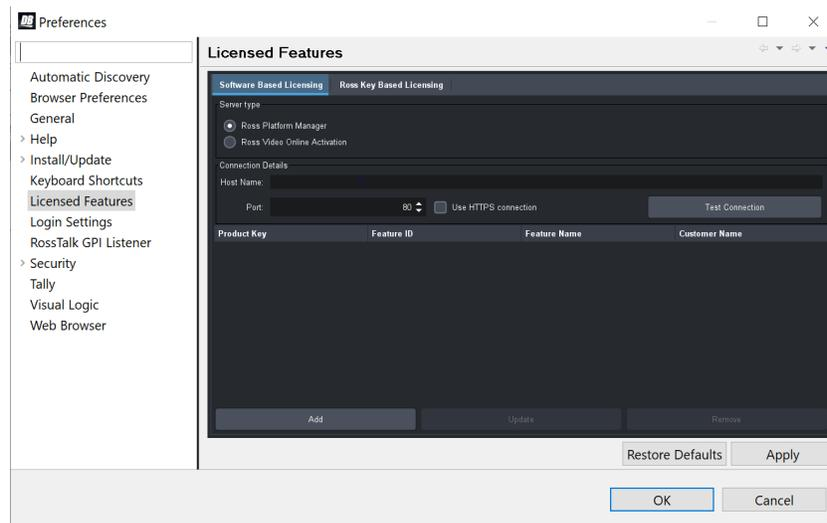

Figure 1 - Connecting a Panasonic Box camera in DashBoard
1. From the main toolbar, select **Window > Preferences**. Refer to Figure 1 for adding a Panasonic Box camera.